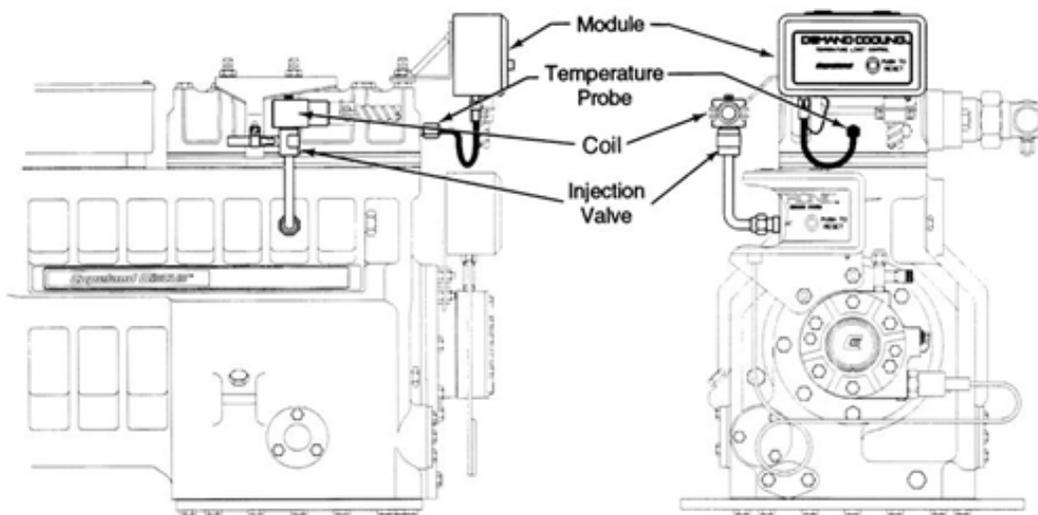

Figure 1 - Demand Cooling System
The Demand Cooling System (see **Figure 1**) consists of: The Demand Cooling Temperature Sensor (TS), The Demand Cooling Module (CM), and the Injection Valve (IV).